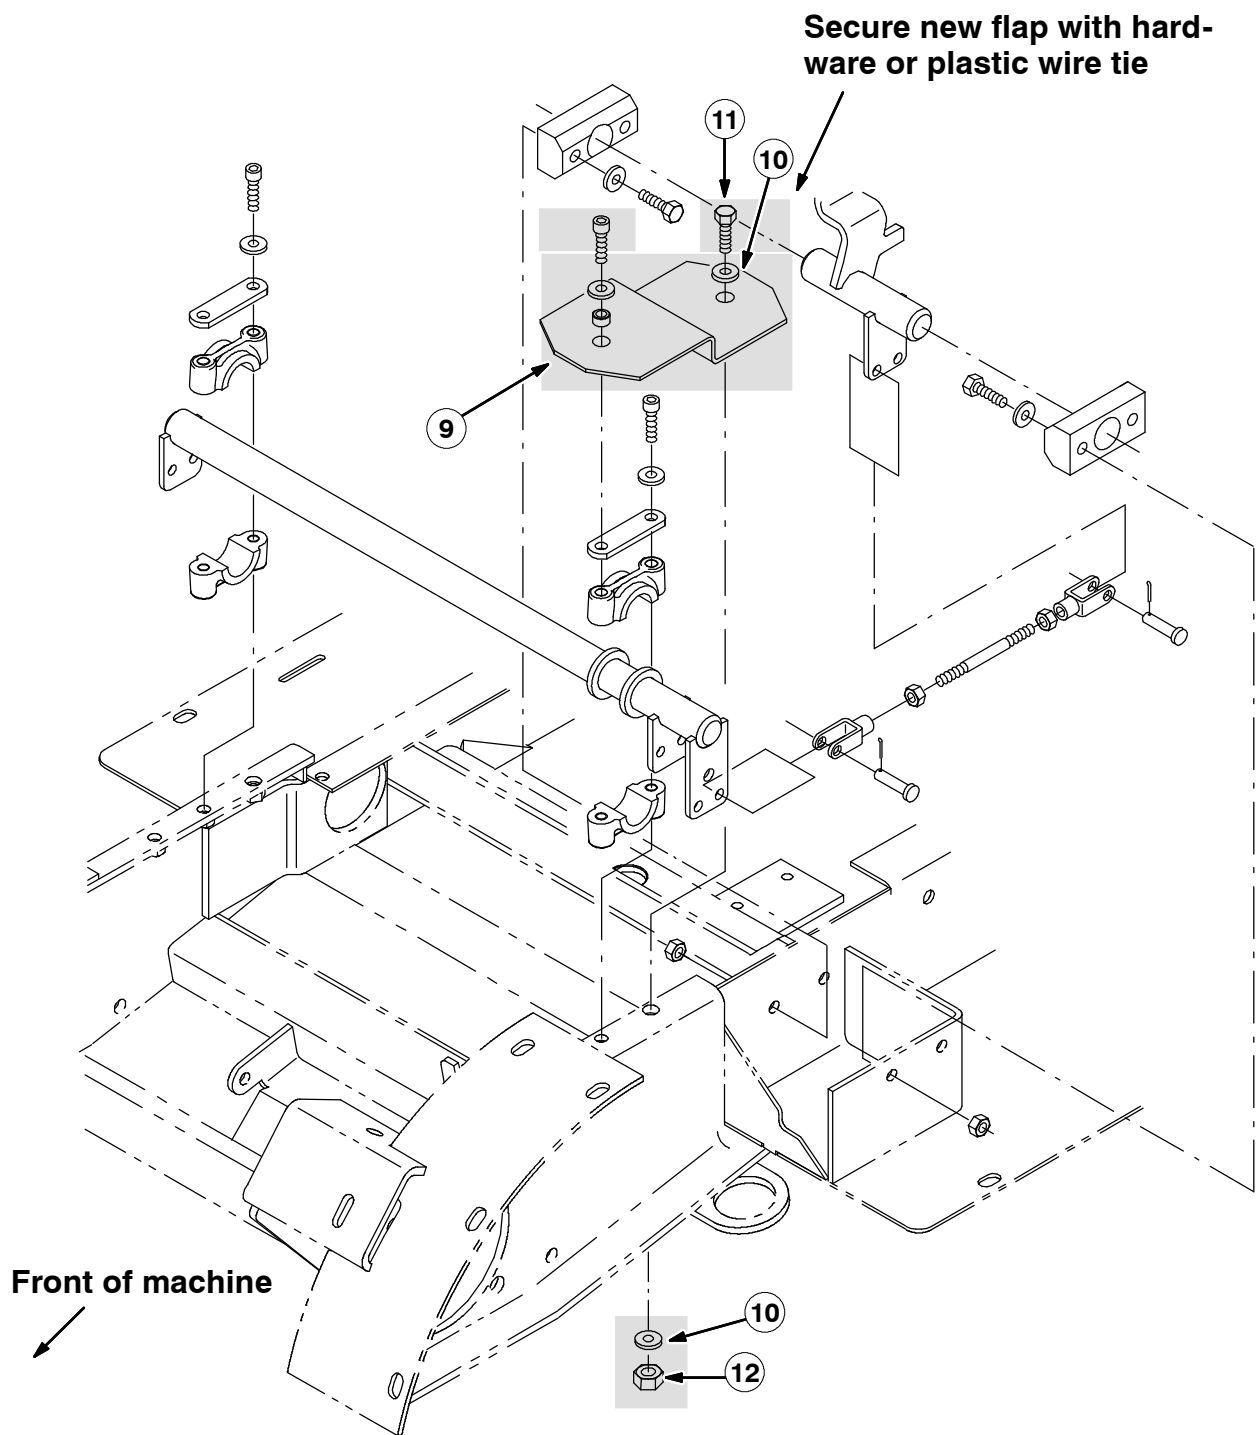

FIG. 1 - HOSE GUARD KIT INSTALLATION
(Refer to FIG. 1 thru 7)
3. Locate the brake lever weldment bearing on the left side of the machine behind the left front wheel. (Refer to FIG. 1)
4. Remove and set aside the front socket screw and washer from the bearing. (Refer to FIG. 1)
5. Place the vacuum hose guard flap (9) in position between the vacuum hose and the brake lever weldment bearing. (Refer to FIG. 1)
6. Mount the front end of the guard flap (9) with the set aside socket screw, washer and sleeve (8). (Refer to FIG. 1)
7. Mount the rear end of the guard flap (11) to the frame of the machine with the hex screw (11), washers (10), and lock nut (12). (Refer to FIG. 1)